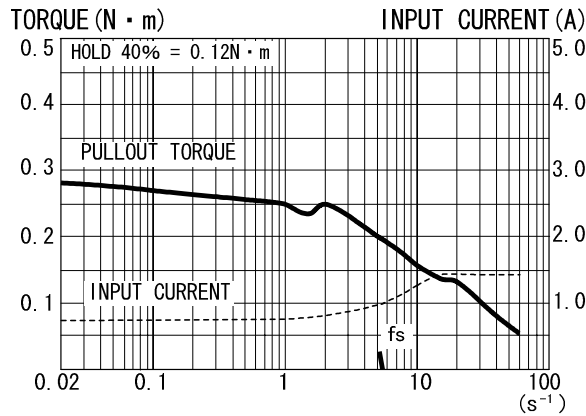
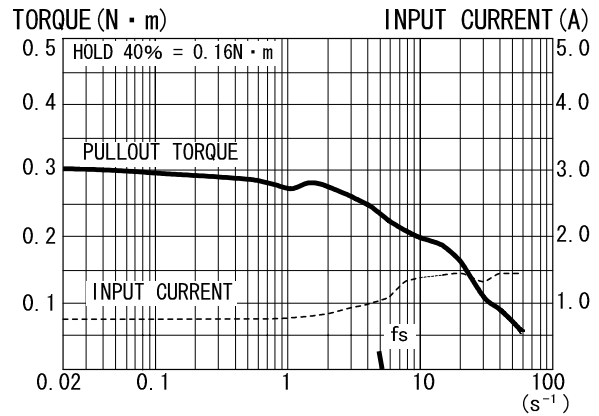

Fig. 4
Fig. 5
| 103H6500-7041 (7011) 103H6501-7041 (7011) | 0.72 | 0.75 | OFF (IH) | ON (5L) | Fig. 4 Fig. 5 |